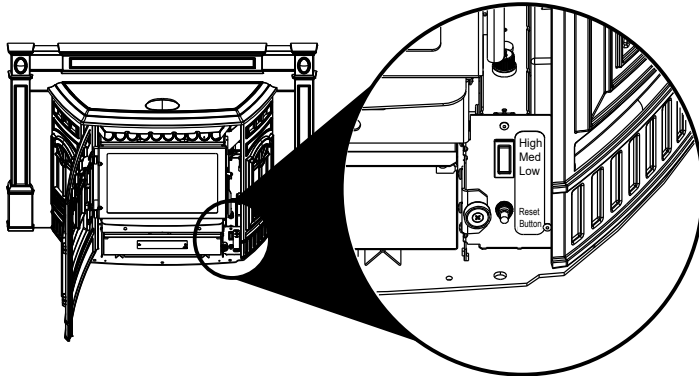

Figure 10.1
This appliance is equipped with a heat output control switch that has three settings or burn rates; low, medium and high (**Figure 10.1**). The appliance will turn on and off as the thermostat demands. When the thermostat calls for heat, the appliance will always start up on High. After burning approximately 4 minutes, the appliance will then burn at the rate at which it was originally set. If the appliance is set at one of the lower settings, it will run quieter but takes longer to heat up an area than if it were set at a higher burn rate. Regardless of the burn rate, when the area is warm enough to satisfy the thermostat, the appliance will shut off.
3. Locate the heat output control switch on the lower right side of the firebox behind decorative front door. Set to the HIGH setting and then adjust the thermostat to its highest setting. The red call light will be on which is located on the top of the junction box behind the right access panel. This indicates the thermostat is calling for heat (**Figure 10.1**).
3. Occasionally the appliance may run out of fuel and shut itself down. When this happens, the red call light will be on (**Figure 10.1 on page 10**). To restart it, fill the hopper and press the reset button. When you press the reset button the red call light will go out. Release the button and the light will come back on. You should see a fire shortly. If not, follow **Starting Your First Fire** instructions on page 10.